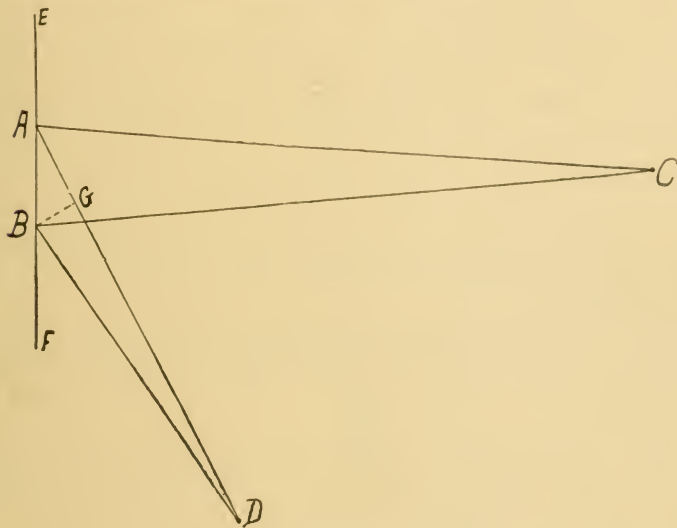

FIGURE 50
Examining Fig. 50 we see an object of a certain width
(33) No screen surface can remedy this condition. Reducing the viewing angle is the only remedy. When there are viewing angles such as shown in Fig. 50 exhibitors should install a screen of high diffusion power. As a matter of fact such angles should not exist in any motion picture theatre.
(34) According to Table No. 6 on page 150, the only screen for the theatre layout previously mentioned would be E. True, B is a trifle better in the matter of light distribution, but it is weak in reflection power. We need a surface approximating E in diffusion power, with the highest reflection power possible.
Again, when placed too close to the screen the theatre patron must cover an excessively wide viewing angle, which is very hard on the eyes. He is also subjected to a foreshortening effect as illustrated in Fig. 50, if seated in one of the end seats.